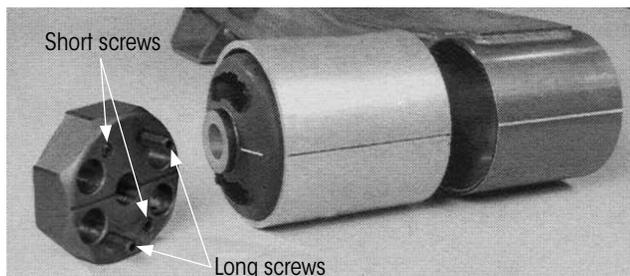

Figure 40: Wide bushing rear drive plate set screws
- A. **Wide Bushing Tool:** Thread all four set screws (two and four-inch) into the "HVY" holes in the concave side of the rear drive plate. The **two-inch set screws** should be flush with the flat side of the rear drive plate (Figure 40). The **four-inch set screws** should extend two inches beyond the flat side of the rear drive plate as shown in Figure 22 on page 11.